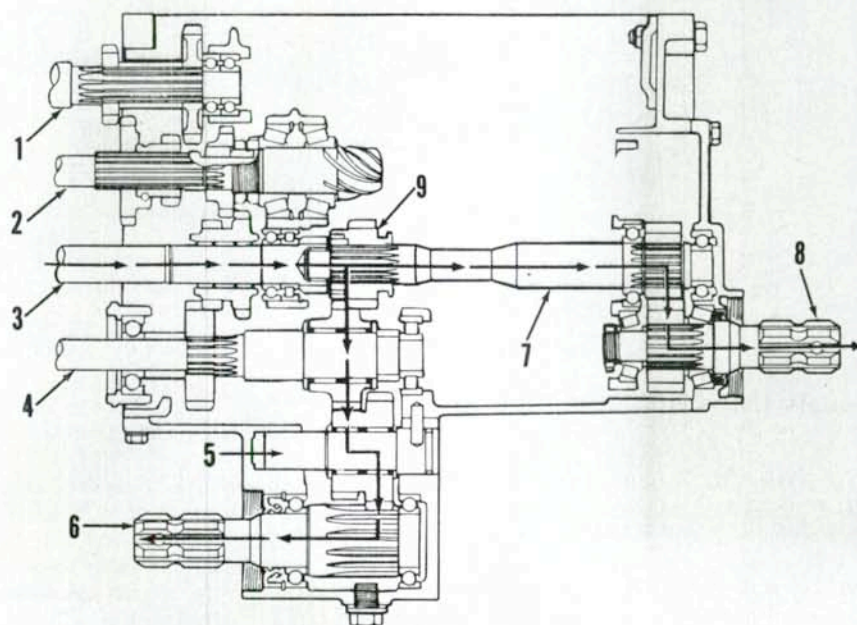

Fig. 241—Cross-sectional view of optional mid-mount pto available on 1110 and 1210 hydrostatic drive models.
164. MID-MOUNT PTO. An optional mid-mount pto (Fig. 241) is available on 1110 and 1210 models equipped with hydrostatic drive transmission. The mid-mount pto output shaft (6) operates at 1000 rpm, while the pto rear output shaft (8) operates at 540 rpm.